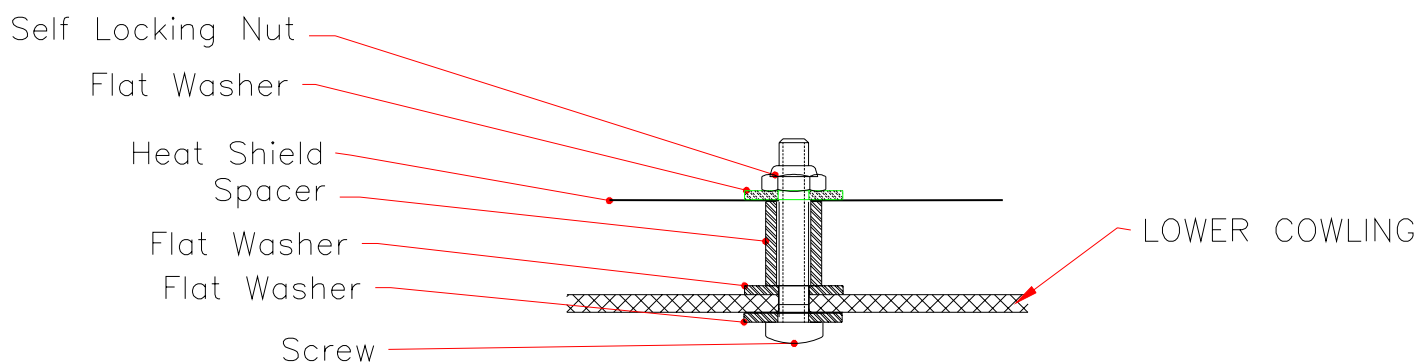

Figure 2
- 10.7** Install the left and right heat shields with the supplied hardware following the instructions in Figure 2.